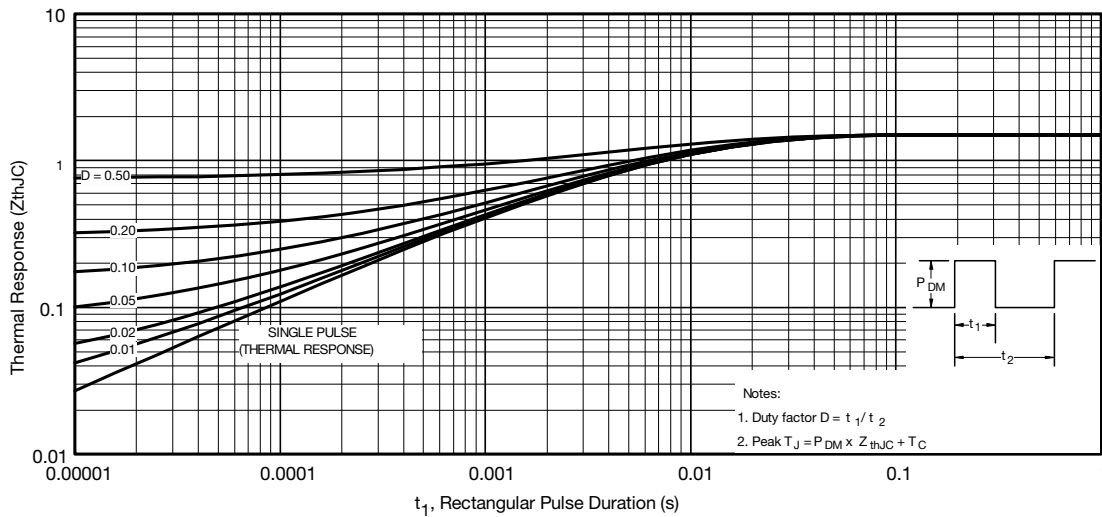

Fig. 11 - Maximum Effective Transient Thermal Impedance, Junction-to-Case
- a. Repetitive rating; pulse width limited by maximum junction temperature (see fig. 11).